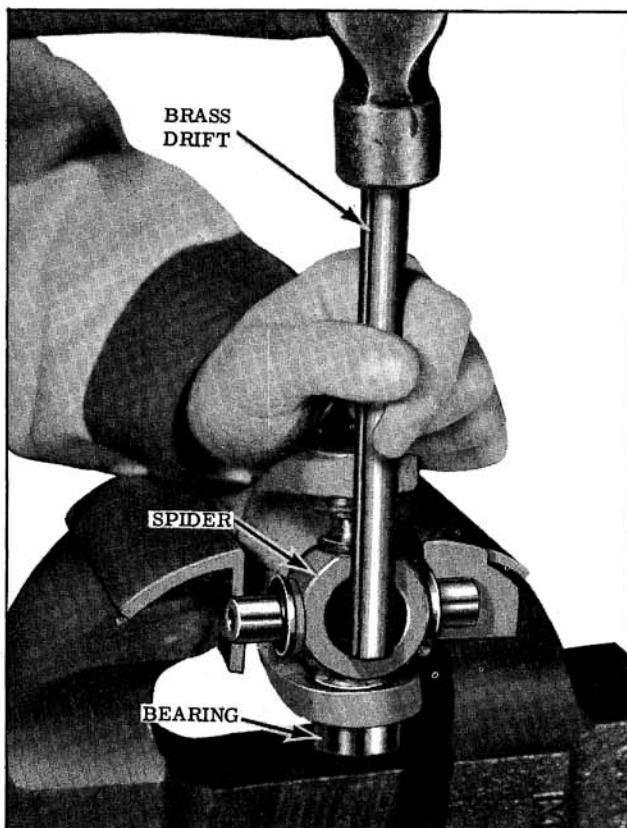

Fig. 10-64 Partial Bearing Removal
- Drive on spider until bearing is partially forced out of yoke. (Fig. 10-64)